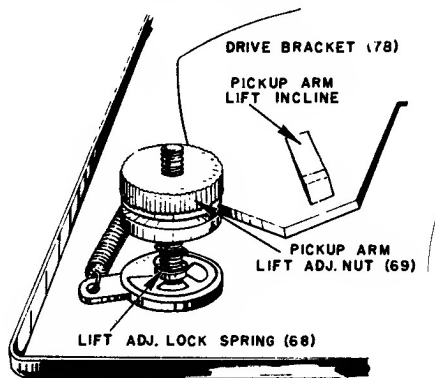

Figure 6. Adjusting Pickup Arm Height.
With the record changer out of change cycle and the pickup arm clear of the turntable, adjust the pickup arm lift adjusting nut (69) (see figure 6), so that the needle rests $1/16$ " above the top of the changer pan. Turning the nut (69) clockwise raises the pickup arm; turning it counter-clockwise lowers the pickup arm.